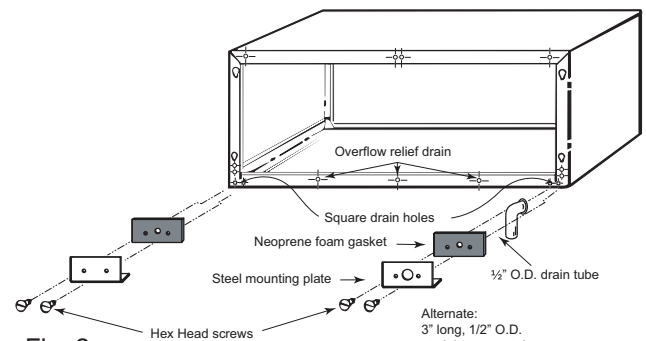

Fig. 2
3. The solid gasket (without hole) should be properly placed on the rear of the solid cover plate and the assembly installed over the drain hole in the sleeve that it is not used to drain. Using two (2) of the screws included (Type A or B depending on the type of sleeve, attach to cabinet (see Fig. 2).
5. Seal external drain holes. Prepare the remaining mounting plates/gasket assemblies as shown in Fig. 2. Using the screws (Type A for Steel or Type B for Molded sleeve) attach plate/gasket assemblies to the bottom exterior flange over both as shown.